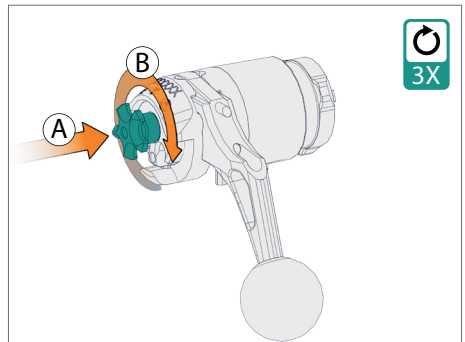

Fig. 14
- Position the star screw and screw it into the thread no more than three turns. (Steps A and B, see Fig. 14).